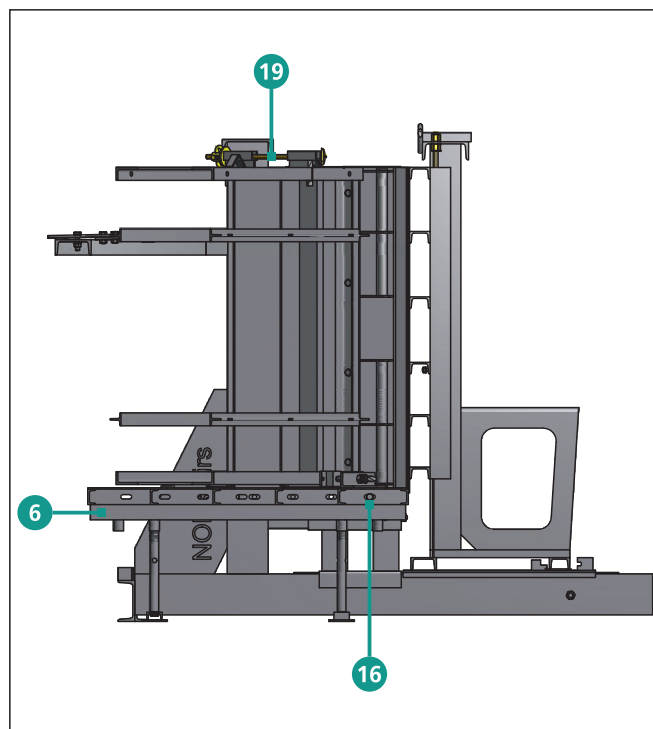

Figure 14.2
3. Bolt the bottom of the start stair on to the end of the stair bottom with 2 bolts M 16x40 (see Figures 14.2 and 14.3).